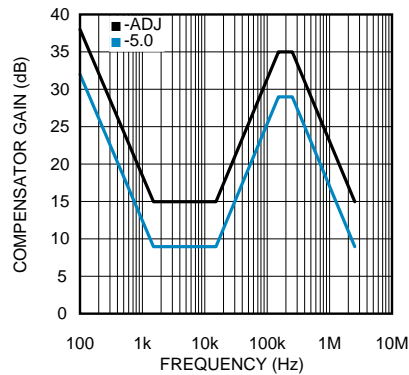

Figure 14. Compensator Gain
The complete transfer function for the regulator loop is found by combining the compensation and power stage transfer functions. The LM22674 has internal type III loop compensation, as detailed in Figure 14. This is the approximate "straight line" function from the FB pin to the input of the PWM modulator. The power stage transfer function consists of a D.C. gain and a second order pole created by the inductor and output capacitor(s). Due to the input voltage feedforward employed in the LM22674, the power stage D.C. gain is fixed at 20dB. The second order pole is characterized by its resonant frequency and its quality factor (Q). For a first pass design, the product of inductance and output capacitance should conform to the following equation: